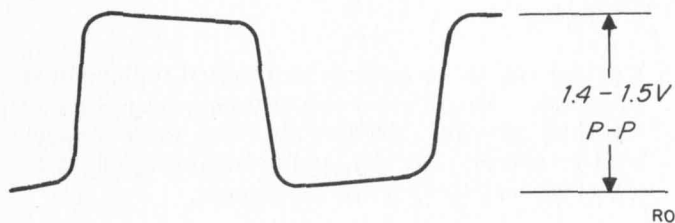

Figure 4-3. Modulator Waveform
6) Turn 412A ON and compare waveform on oscilloscope with that shown in Figure 4-3. Peak-to-peak amplitude of signal at pin 2 of V101 should approximately equal the applied dc voltage. Signal frequency should be 5/6 power-line frequency.